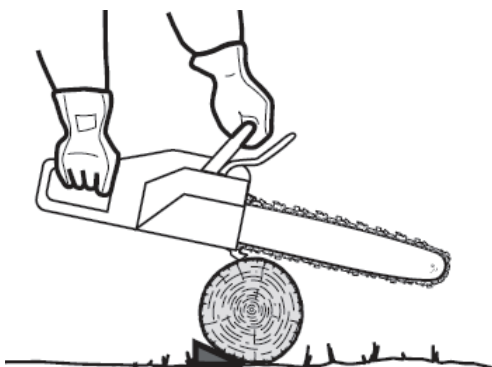

Fig. 42
- If the wood diameter is large enough for you to insert a soft bucking wedge without touching the chain, you should use the wedge to hold the cut open to prevent pinching (Fig. 42).